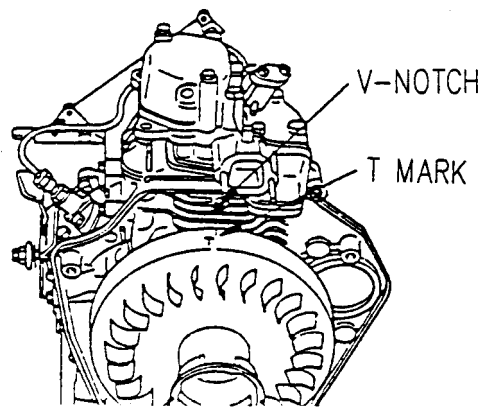

Figure 5-14. T Position Mark
First visually confirm that the flywheel has two distinct sets of marks stamped ninety degrees apart. To do this, locate a set of timing marks at the V notch line on the cylinder body fin (Figure 5-14). Rotate the flywheel 90 degrees clockwise as viewed from the flywheel side of the engine. Check for a second set of timing marks, if none are found, rotate the flywheel back to the original timing marks. Next, rotate the flywheel counterclockwise 90 degrees, checking for additional timing marks. If no additional marks are found, time the engine in accordance with the procedure below.
If two sets of timing marks are found, position the flywheel so that looking from the flywheel side, one set of timing marks at the 12 o'clock position are in line with the V notch line (Figure 5-14) on the cylinder body fin and the second set of marks are at the 3 o'clock position (90 degrees to the right). When the flywheel is in this position, the correct timing marks are visible at the V notch. Time the engine in accordance with the procedure below.
- (b) Align the T position mark on the flywheel with the V notch on the cylinder body fin (Figure 5-14).